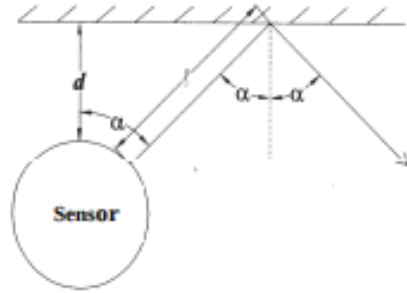

Figure 10: Phong's Model in IR sensor's case.^[13]
In the case of the IR sensor, the IR source is the same as the IR view, so we can use geometric rules to figure out the angles between the vectors as α and 2α . From *Figure 10* we can update (1) by normalizing the vectors^[13], the new equation yields: